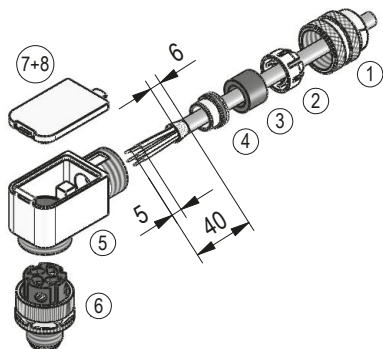
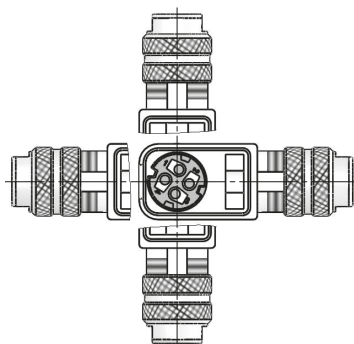

Fig. 8: Right angle mating connector M12
Fig. 9: Angled positions
- Accessory SIKO art. no. "87600" M12 D coded (plug pin 4 pole Ethernet Port 1 (IN) + Port 2 (OUT)) (Fig. 8 + Fig. 9).
#### Mounting (Fig. 8)
### Changing the angle position (Fig. 9)